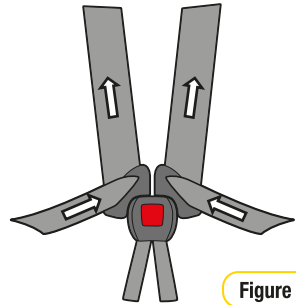

Figure 4
Step 6: Remove all of the slack for the harness lap straps by pulling shoulder straps, then pull the harness adjustment strap to adjust harness to a comfortable but firm fit (refer Figure 4).